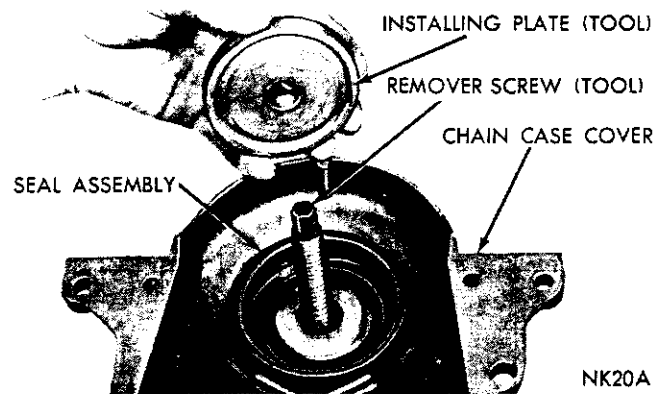

Fig. 27—Positioning Installer Plate
(7) Place seal in the cover opening, with neoprene down. Place the seal installing plate into the new seal, with protective recess toward lip of seal retainer (Fig. 27).